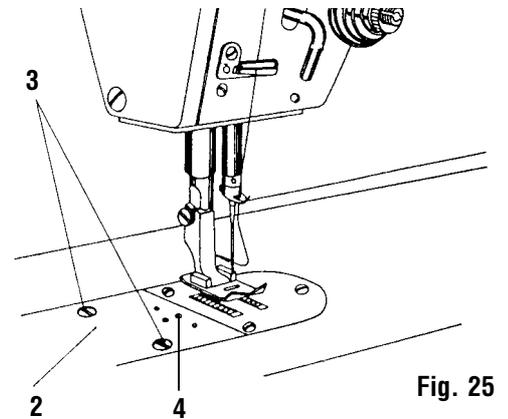

Fig. 25
27. Setting of the stationary knife pressure (Fig. 25)
30. Dismounting and mounting of the plate (Fig. 25)